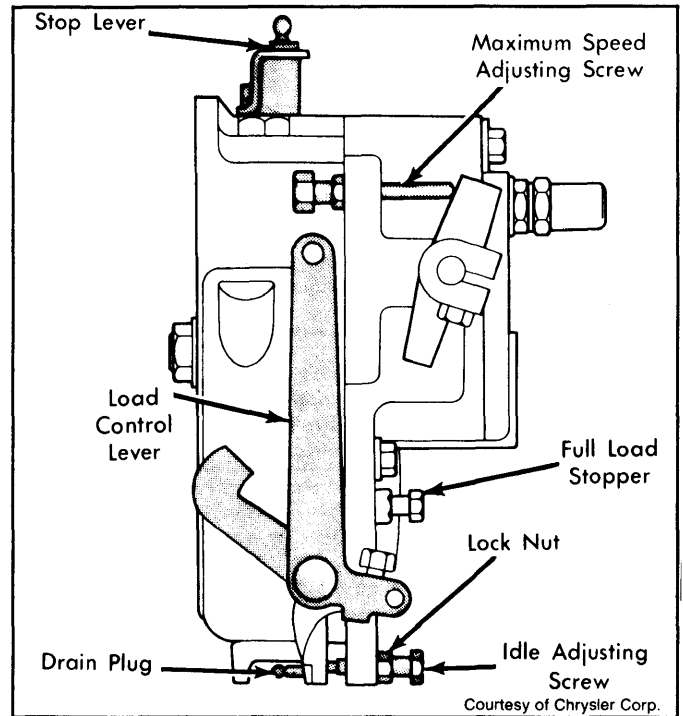

Fig. 4: Idle Screw Adjustment
4) If idle speed must be adjusted, loosen lock nut and turn adjusting screw clockwise to increase speed, counterclockwise to decrease speed. See Fig. 4.